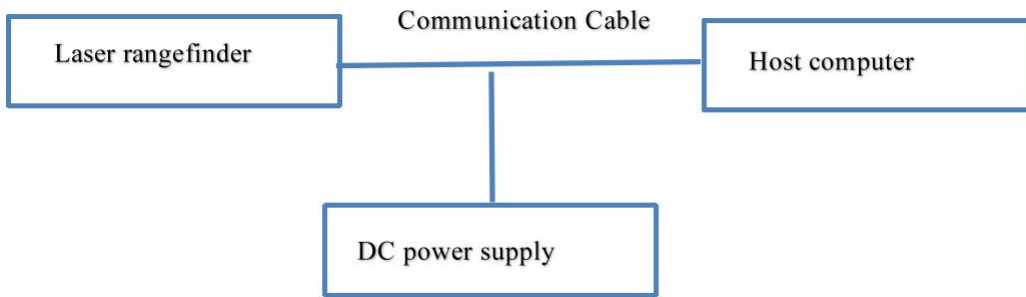

Figure 5 Connection diagram
- Before starting up, according to the interface requirements of 1.4, connect the laser rangefinder, debugging cable, DC power supply and host computer as shown in Figure 5;